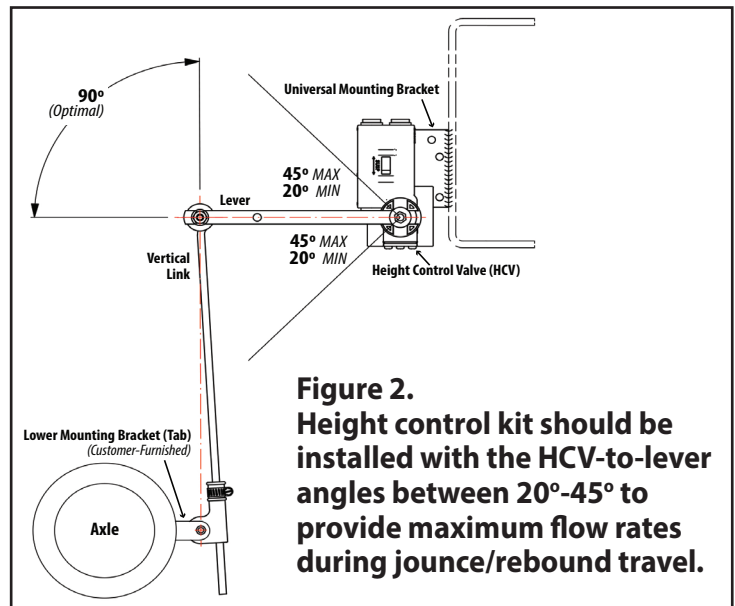

Figure 2.
4. Attach "P"-Connector to lower mounting bracket with the lower pin. Torque to 90-120 in-lbs (Fig 2).
5. Set lever to neutral (center) position. Slide vertical link into "P"-Connector. Slide rod until grommet reaches the same height as the lever. Attach vertical link to lever with the upper pin. Torque to 60-80 in-lbs. Tighten P-Connector band clamp to hold the rod in place. Cut and remove excess rod, leaving about one-inch of rod beneath the P-Connector (Fig 2).